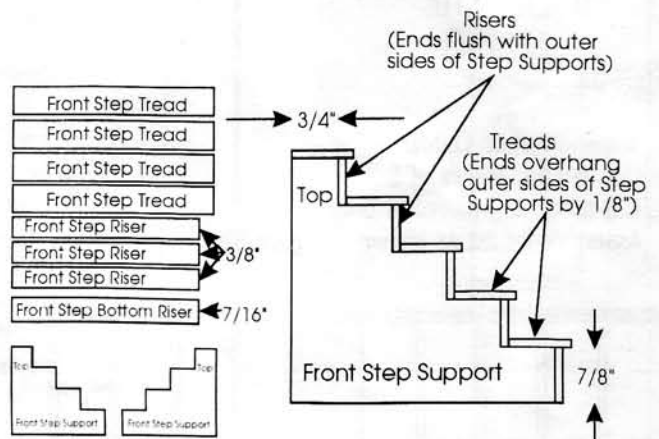

Figure 37
2. Assemble and Install Front Steps as in Figure 37.